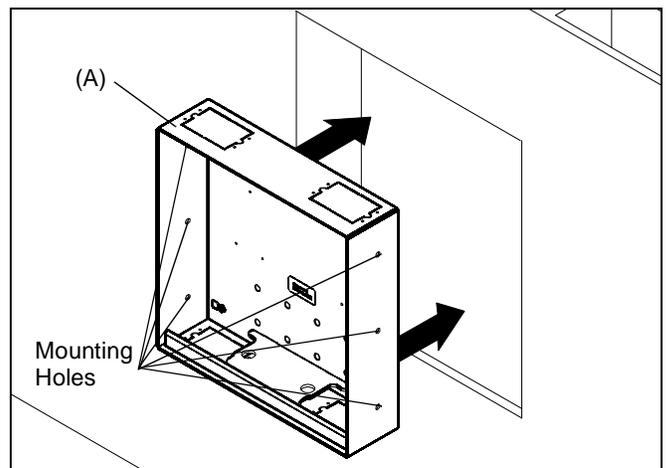

Figure 2
1. Install PAC-GB1 Listed electrical box accessory (not included) into the MAC-501 (A) following instructions included with the PAC-GB1.
4. Center MAC-501 (A) in opening and insert into opening.
5. Align front of box with front face of wall. (See Figure 2)